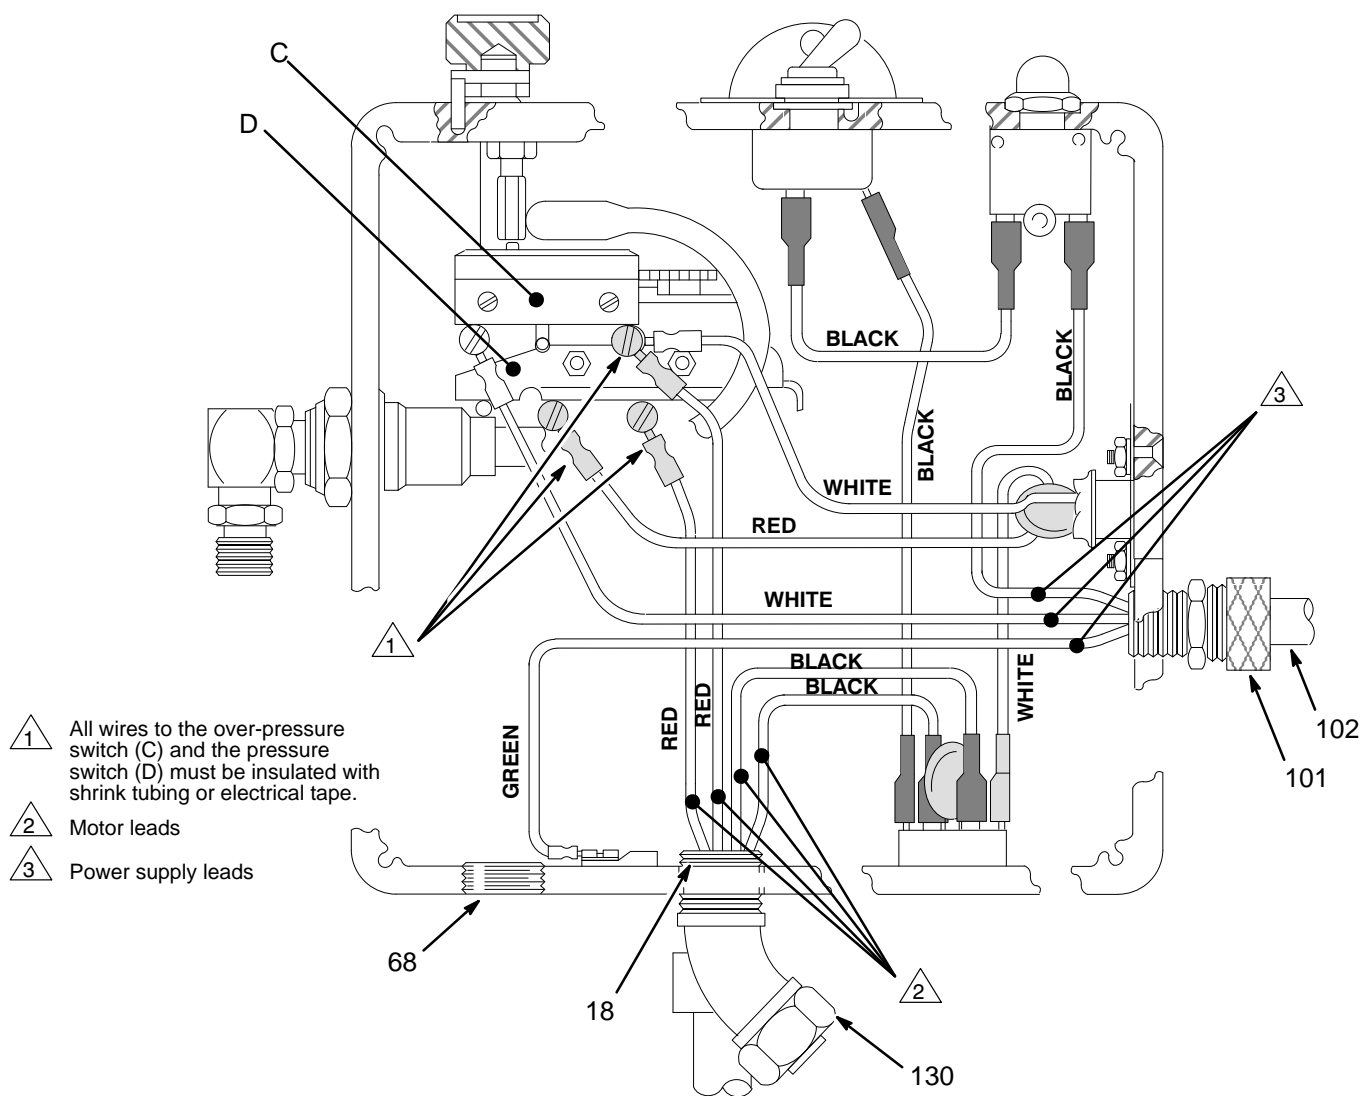

Fig. 20 01314
All wires connected to the over-pressure switch (C) and the pressure switch (D) must be insulated at the terminals to reduce the risk of electric shock if someone touches these parts when the power is on. When installing the new pressure control, be sure these terminals are covered with shrink tubing or electrical tape. See Fig. 20.
1. Disconnect the spray hose. Hold the nut (B) steady with a wrench and unscrew the filter (15).
2. Hold the elbow (105d) steady with a wrench and disconnect the hose (30). Disconnect the drain hose (80).
3. Remove the pressure control cover (21).
4. Disconnect the three power supply cord leads. See Fig. 20.
5. Disconnect the four motor leads. See Fig. 20.